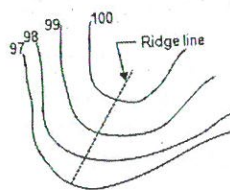

Fig. 1
8. Contour lines with U-shape with convexity towards lower ground indicate ridge (Fig.1)